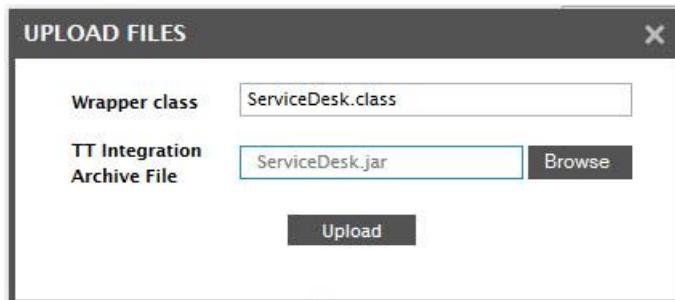

Figure 5.6: Uploading the TT integration jar file to the eG manager
10. The implementation of eG integration with Autotask exists in a Java class file named **AutoTaskIntegrator.java**. Additionally, the API files and library files that support this class file are jarred in **AutoTask.jar** file. In eG, this jar file is referred to as the **TT integration archive file**. By default, the implementation class file and the jar file are bundled with the eG manager and are available in the `<EG_INSTALL_DIR>\manager\lib` directory on the eG manager host. However, if later, changes are made to these files, you will have to re-upload them to the eG manager. In such a case, set the **Do you want to upload the supporting archives?** flag to **Yes**, and click the **Upload** button alongside. This will invoke Figure 5.6.
Here, specify the full path to the **Wrapper class** file – i.e., the **AutoTaskIntegrator.java** file - and the **TT Integration Archive File** – i.e., the **AutoTask.jar** file - to be uploaded. Use the **Browse** button for the path specification. Finally, click the **Upload** button in Figure 5.6.